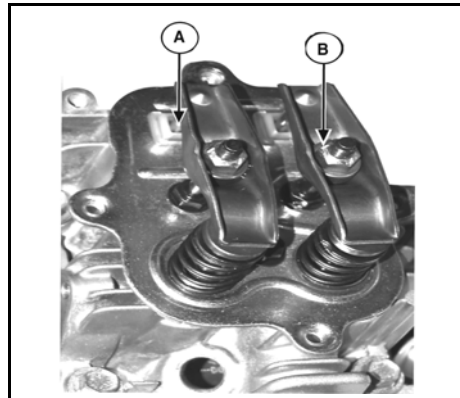

Figure 21
1. Loosen rocker arm screws and/or lock nuts, and remove from rocker arm studs (A, Figure 21).